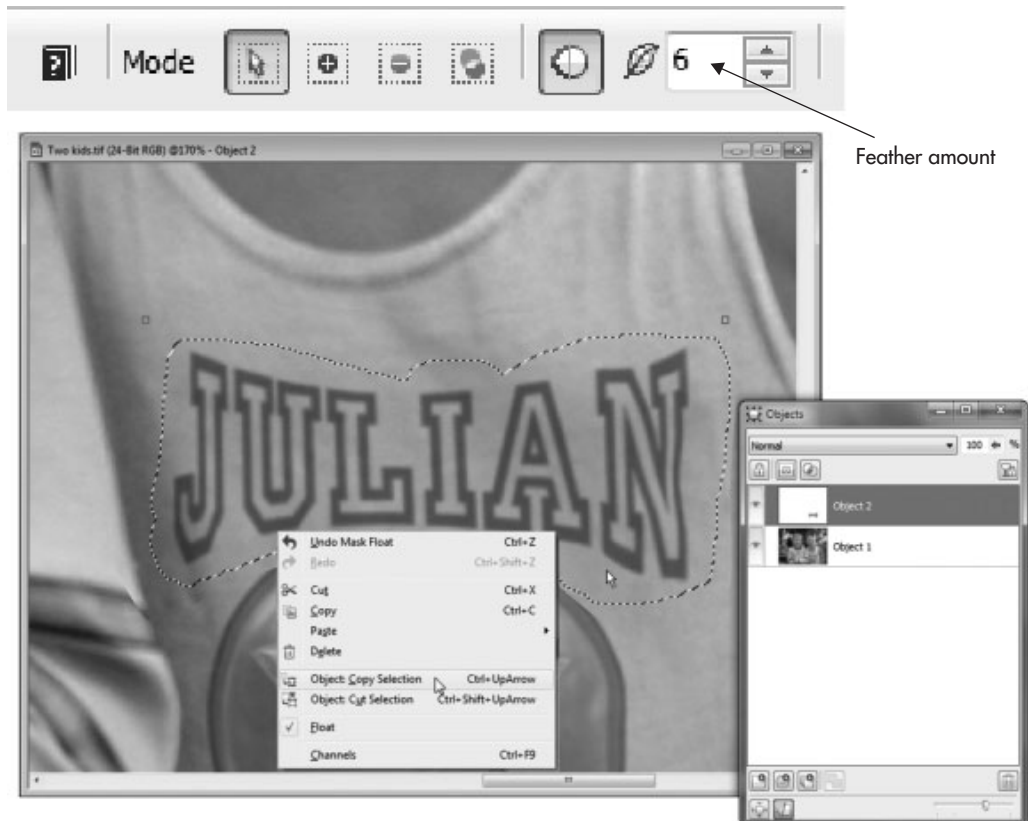

FIGURE 25-9 Copy the image area that you don't want to flip to a new object in the document.
5. Right-click inside the dashed indicator lines for the mask area, and then choose Object: Copy Selection from the context menu. On the Object docker, you'll now see a new thumbnail at the top of the list of objects, titled "Object 2"; see Figure 25-9.